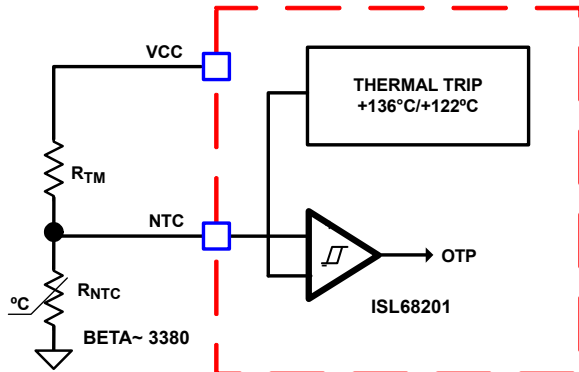
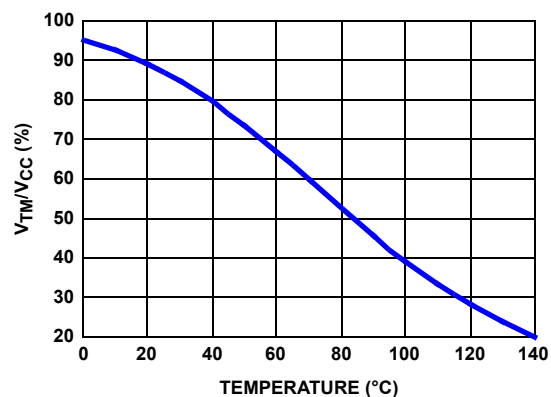

FIGURE 16. BLOCK DIAGRAM OF THERMAL MONITORING AND PROTECTION
FIGURE 18. THE RATIO OF TM VOLTAGE TO NTC TEMPERATURE WITH RECOMMENDED PART
The thermal monitoring function block diagram is shown in Figure 16 on page 18. One NTC resistor should be placed close to the respective power stage of the voltage regulator VR to sense the operational temperature, and pull-up resistors are needed to form the voltage dividers for the NTC pin. As the temperature of the power stage increases, the resistance of the NTC reduces, resulting in the reduced voltage at the NTC pin. Figure 18 on page 18 shows the TM voltage over the temperature for a typical design with a recommended 10kΩ NTC (P/N: NCP15XH103J03RC from Murata, $\beta = 3380$) and 1.54kΩ resistor R_{TM} . It is recommended to use those resistors for accurate temperature compensation because the internal thermal digital code is developed based on these two components. If a different value is used, the temperature coefficient must be close to 3380 and R_{TM} must be scaled accordingly. For instance, if $NTC = 20k\Omega$ ($\beta = 3380$), then R_{TM} should be $20k\Omega/10k\Omega * 1.54k\Omega = 3.08k\Omega$.
Based on the V_{CC} voltage, the ISL68201 converts the NTC pin voltage to a digital signal for temperature compensation. With the nonlinear A/D converter of the ISL68201, the NTC digital signal is linearly proportional to the NTC temperature. For accurate temperature compensation, the ratio of the NTC voltage to the NTC temperature of the practical design should be similar to that in Figure 18.
1. Properly choose the voltage divider for the NTC pin to match the NTC voltage vs temperature curve with the recommended curve in Figure 18 on page 18.
As shown in Figure 16 on page 18, there is a comparator with hysteresis to compare the NTC pin voltage to the threshold set. When the NTC pin voltage is lower than 22.31% of the V_{CC} voltage (typically +136°C), it triggers Over-Temperature Protection (OTP) and shuts down the ISL68201. When the NTC pin voltage is above 27.79% of the V_{CC} voltage (typically +122.4°C), the ISL68201 resumes normal operation. When an OTP fault is declared, the controller forces the LGATE and UGATE gate-driver outputs low.